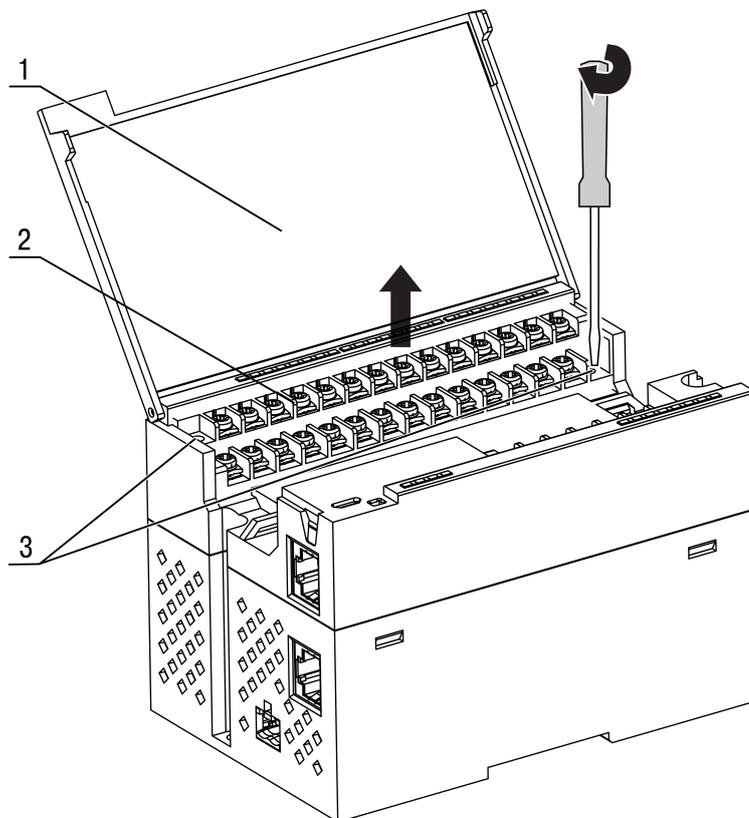

Fig. 7.1 Remove the first terminal block
5. Remove the terminal block 2 as shown in the Figure 7.1.